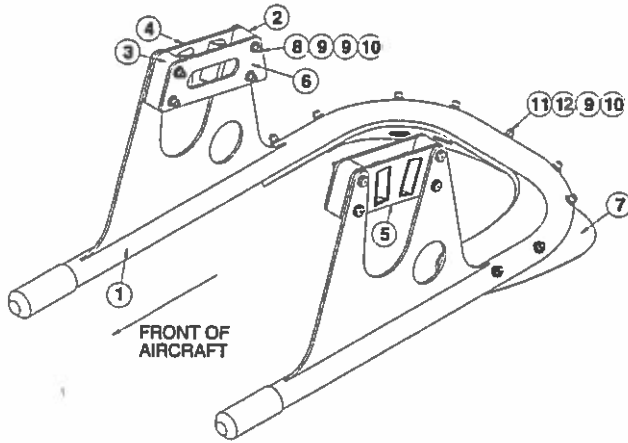

Figure 1. Nose Gear Gravel Deflector – Config. 1
3. Using the bolts, item -8, with washers, item -9, and nuts, item -10, clamp the top of the gravel deflector frame to the nose gear fork by bolting through the frame, the front and aft blocks, items -2 and -3, and the clamp plates, item -4, -5 and -6, as shown in Figure 1.